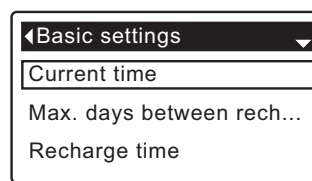

FIG. 25
3. Press the SELECT (O) button to display the Basic settings menu (See Figure 25).
7. Press the SELECT (O) button. The display will go back to the Basic settings menu (Figure 25).